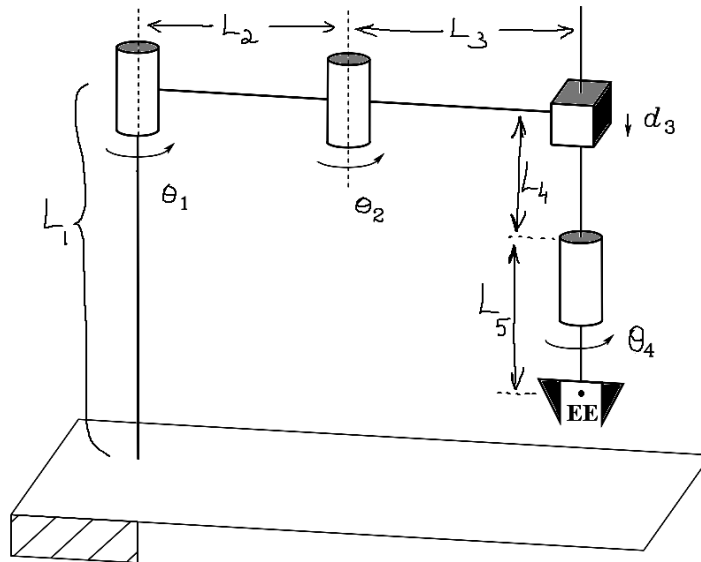

Fig.Q4A
- 4A. Calculate the linear and angular velocities of end-effector for the manipulator (w.r.t. the base frame) shown in Fig.Q4A.